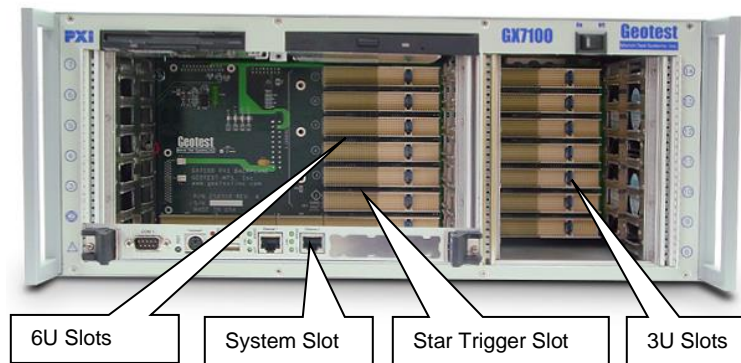

Figure 2-3: GX7100A Front View
- **GX7110:** This chassis is designed to operate with the GX799x PXI bus expanders or with a MXI-4 interface. This configuration allows the use of desktop PC or another PXI chassis as the system controller. See Figure 2-3.